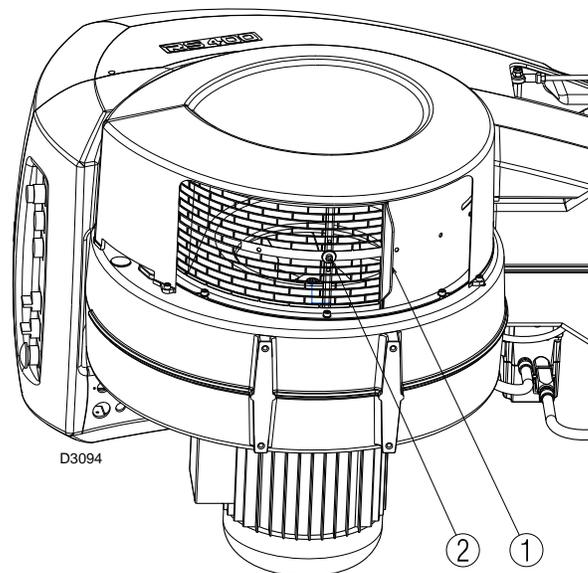

Fig. 45
- Loosen screw 2)(Fig. 45) under the burner's intake and close grille 1) progressively until you achieve the required output.